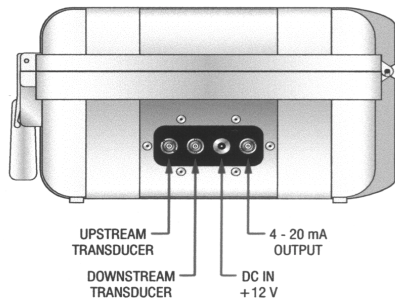

Figure 1.1
Apply power, utilizing the enclosed 12 Volt DC output line power converter or cigarette-style power cord, to the TFXP for a period of 16-24 hours prior to using the product for the first time. The power converter connects to the socket connection located on the side of the enclosure. See **Figure 1.1**. A fully charged battery will provide up to 24 hours of continuous operation before recharging will be necessary.
- B. Attach the transducer mounting rail or saddles to the pipe at the location(s) determined in Step 1. Refer to Figure 1.1 for proper orientation.